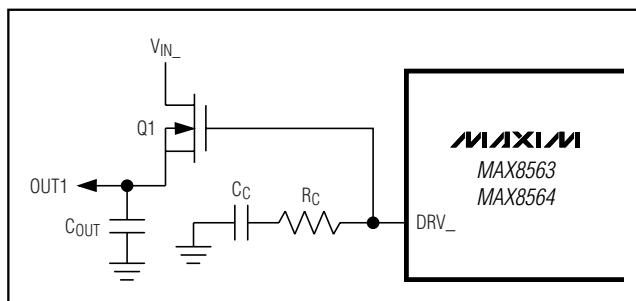

Figure 3. Soft-Start and Compensation Schematic
When an LDO is activated, the respective DRV- is pulled up from GND with a typical soft-start current of 100μA. The soft-start current limits the slew of the output voltage and also limits the initial spike of current that the drain of the external n-MOSFET receives. The size of the compensation capacitor (CC) limits the slew rate (see Figure 3). This slew rate is equal to (100 / CC)mV/ms, where CC is in μF. The maximum drain current during startup is the ratio of COUT to CC multiplied by the soft-start current of 100μA.